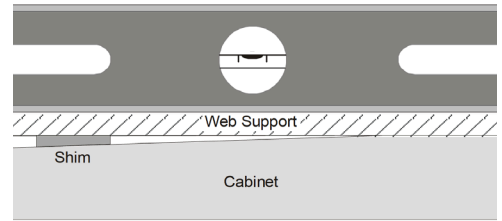

Figure 37A
- Webbing must be straight, flat and level after installation. If shims are used, they must be installed between the cabinet and the web frames, not directly under the countertop. (FIG. 37A)